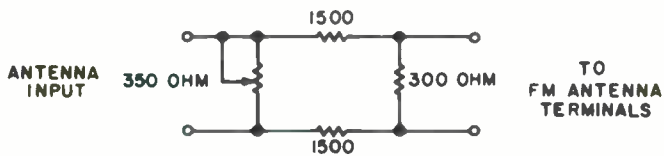

FIG. 6
- a. Put Antenna Attenuator (Figure 6) between FM antenna terminals and antenna as shown in Figure 6.
- c. Tune to a weak station known to be broadcasting a stereo signal. Adjust Antenna Attenuator (Figure 6) until the background hiss becomes apparent. Put the mute switch in the On position and adjust R139 mute sensitivity control until signal is muted, as in Step 2 above.